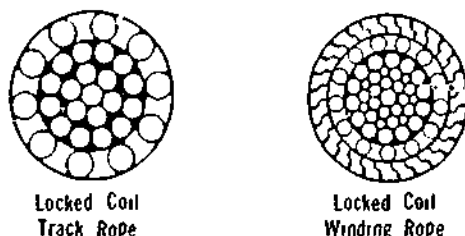

Figure 7-41. Locked Coil Rope
**Locked Coil rope** differs completely from both round strand and flattened strand rope. Instead of a group of individual strands closed around a central core member it is a single strand built up of layer upon layer of wires. The centre or core of the locked coil rope consists of a concentric laid strand of round wires. Around this core are laid one or more layers of shaped wires, the outer layer always being interlocking. The shape or shapes of all shaped wires in a locked coil rope depend on the rope diameter and its end use. Typical locked coil wire arrangements are illustrated in Figures 7-41.